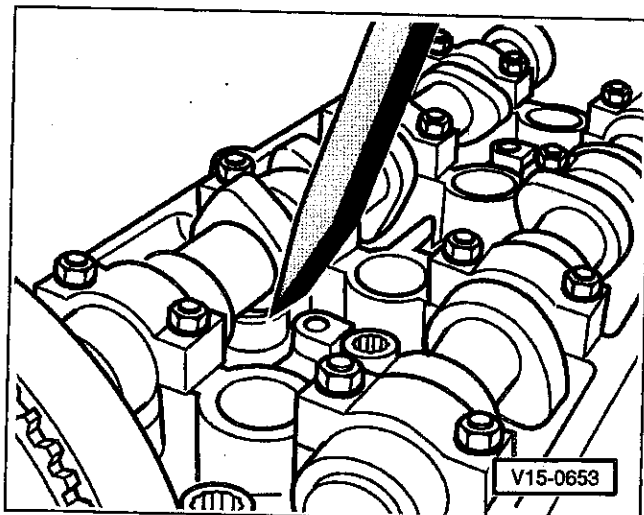

Fig. 13. Hydraulic cam follower being depressed with a non-metal object.
4. If no faults are found in step 3, use a non-metal object such as wood or plastic to apply light pressure to the top of the cam follower. See Fig. 13. Recheck the clearance. If the clearance is excessive, replace the follower.